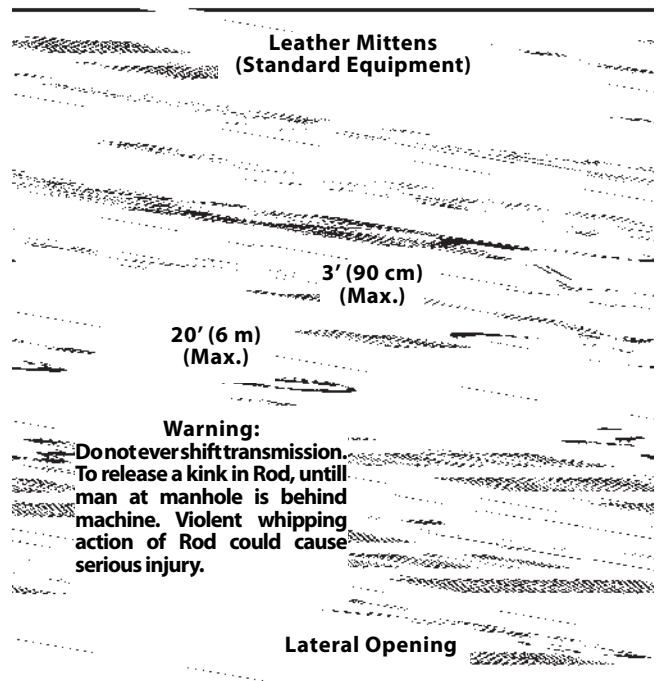

Figure 3 – Operating Rodder
⚠ WARNING Always follow the correct operating procedure in order to maintain proper control of the machine and rods and prevent serious injury (Figure 3).
11. As machine is pushed forward, the rod handler should push downward on rod with rod guided between thumbs and palms of hands with fingers extended (Figure 3).